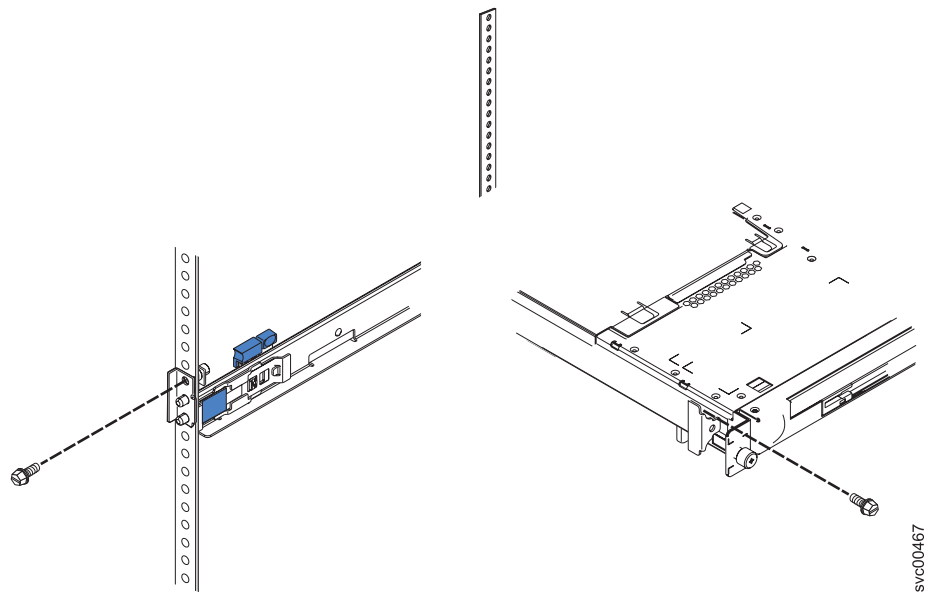

Figure 26. M6 screws that secure the node to the rack
- Secure the slide rails to the rack, as shown in Figure 26. Slide the node out of the rack 15 cm (6 in) and insert the M6 screws in each slide rail. Push the node back into place.